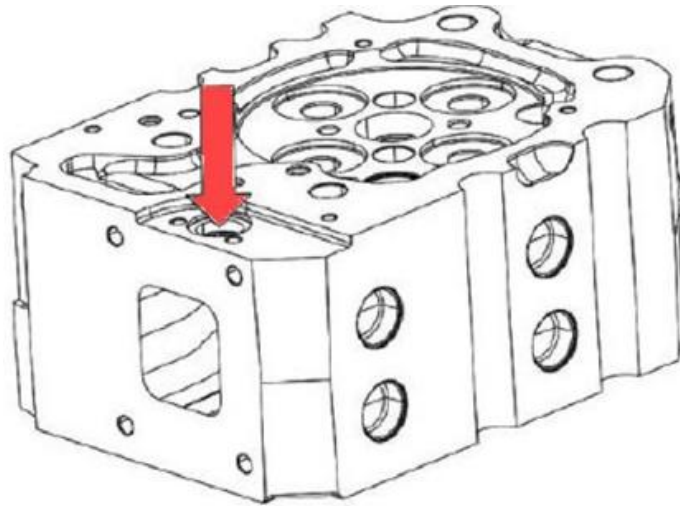

Figure 53. Cylinder Head Outlet
2. Connect an air inlet onto the water outlet of the cylinder head. Immerse the cylinder head in a tank of water and increase pressure up to 73 PSI or 5 bar (Figure 53).